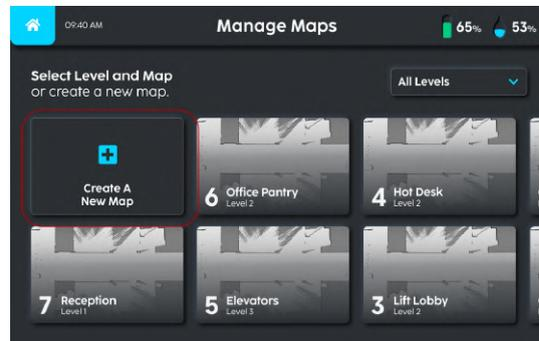

FIGURE 4-2
3. There is another option to create a new map within "Manage Maps" (**Fig. 4-2**).